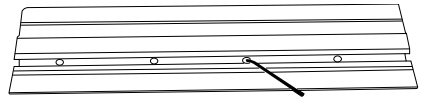

Fig.9
2. Using the supplied hexagon key to loosen the 4 screws in the joining bar. Slide the cavities over the joining bar that is protruding from track section. (Fig.9. Fig.10)